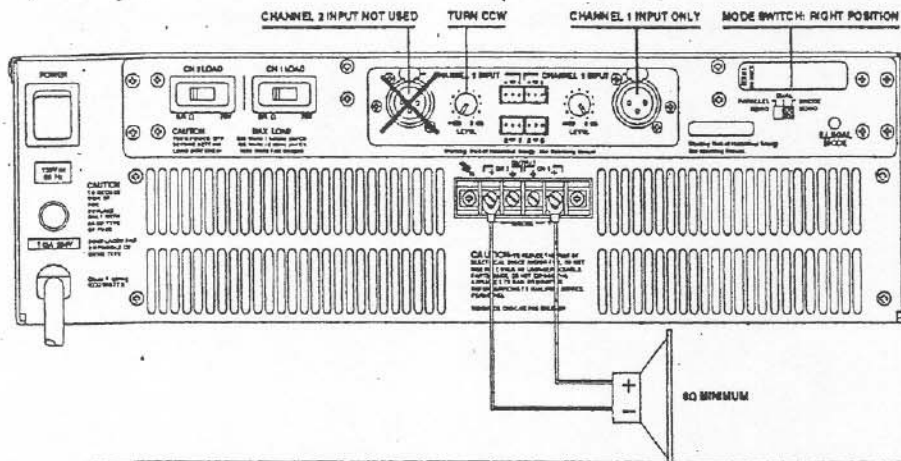

Figure 10 Bridged Mono Connections
**Bridged Mono** - In this mode a single speaker load is connected across the amplifier outputs (Figure 10). For proper operation the signal source is connected to the channel-one input. The channel-two input level should be fully counterclockwise. In this mode the amplifier is providing a true balanced output.